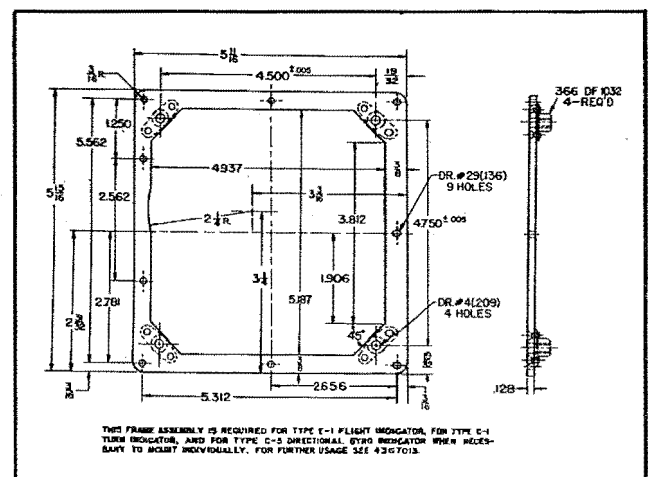

Figure 8 - Individual Mounting Frame
(1) Mounting frame, AF No. 43B7625, is to be used when the Type C-1 (or C-5) Indicator alone is installed. (See figure 8.)
(2) Make the panel cut-out by placing the frame in the required position, then use the opening in the frame as a template.
(3) Locate and drill the mounting holes for the instrument and the rivet holes for the mounting frame as shown in figure 8.
(4) After the panel cut-out has been made and the mounting frame attached, refer to this section, paragraphs 4 and 5.
(2) Make the panel cut-out by placing the mounting frame in the required position, then use the opening in the frame as a template.
(3) Locate and drill the mounting holes for the instruments and the rivet holes for the mounting frame as shown in figure 8.